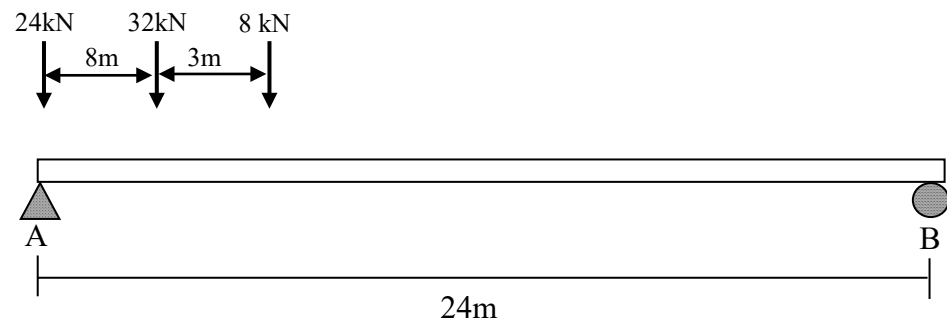

Figure A2(b)/ *Rajah A2(b)*
- CLO3 (b) A 24m long simply supported beam carries a series of concentrated loads, as shown in Figure A2(b) below. Evaluate the absolute maximum moment in the beam produced by the wheel loads using Influence Line Diagram.